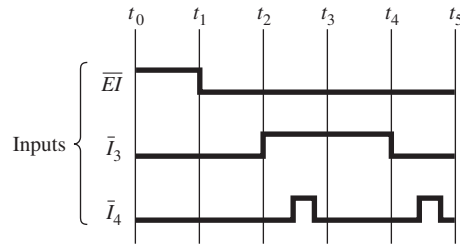

Figure P16
16. Repeat Problem 15 for the waveforms shown in Figure P16.